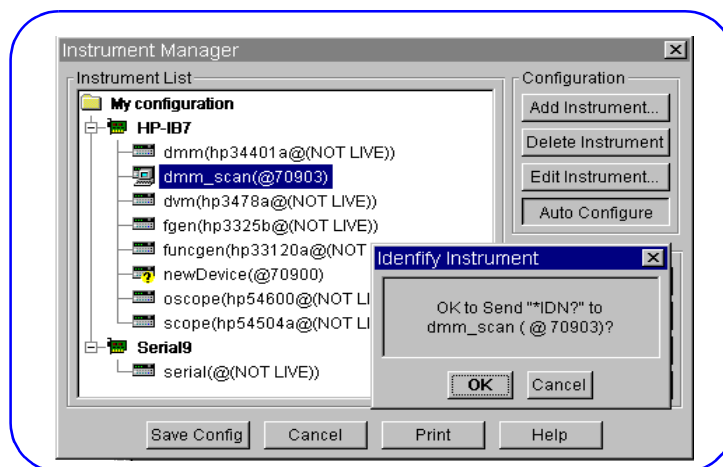

Figure 37. HP VEE Instrument Manager - Auto Configure
- 4 To verify communication with the HP E1411B, highlight the *dmm_scan (@70903)* line and then click *Auto Configure* to display an **IDN?* message box similar to Figure 37.